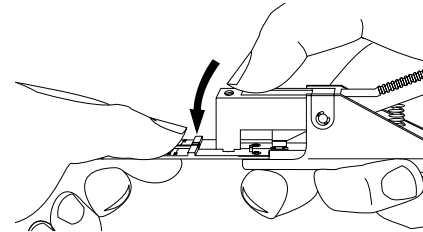

Figure 4
4.4 Press down the cleaver arm until it just touches the fiber and guide (Figure 4). This will apply enough pressure to properly score the fiber(s).